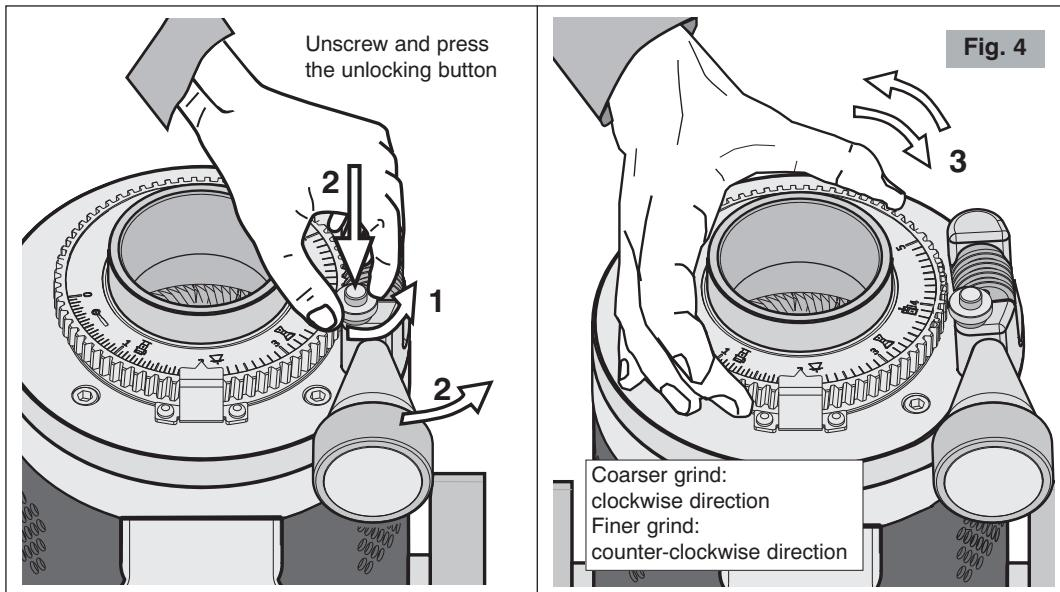

Fig. 4
-  It is possible to speed up the adjustment operations by directly turning the grinding adjustment toothed disc (4 Fig. 1) (see Fig. 4 - 1, 2, 3), after having first unlocked by unscrewing and pressing the unlocking button (5 Fig. 1) and moved away the adjustment block.